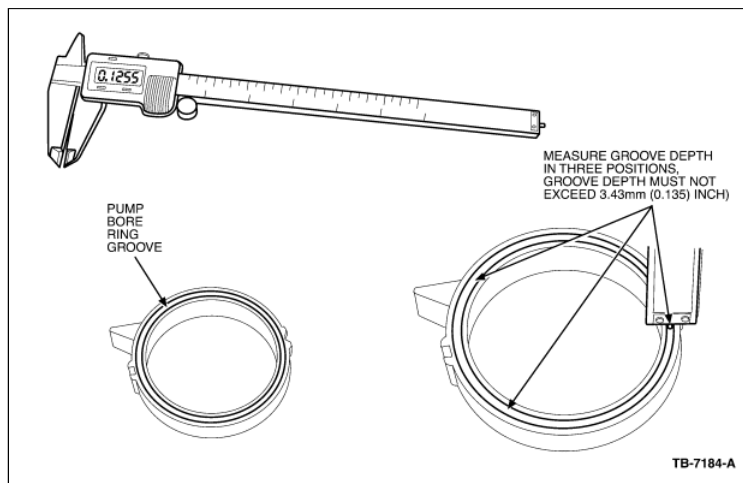

Figure 4 - Article 03-12-3
8. Measure depth of groove in the pump bore ring (Figure 4).